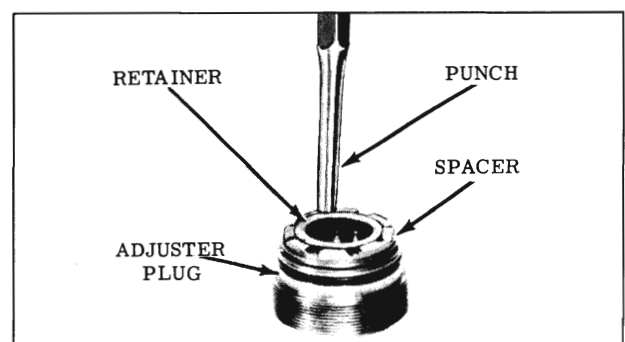

Fig. 4-261 Installing Retainer
5. Install a new bearing retainer on the adjuster plug by carefully tapping on the flat surface of the retainer. (Fig. 4-261)